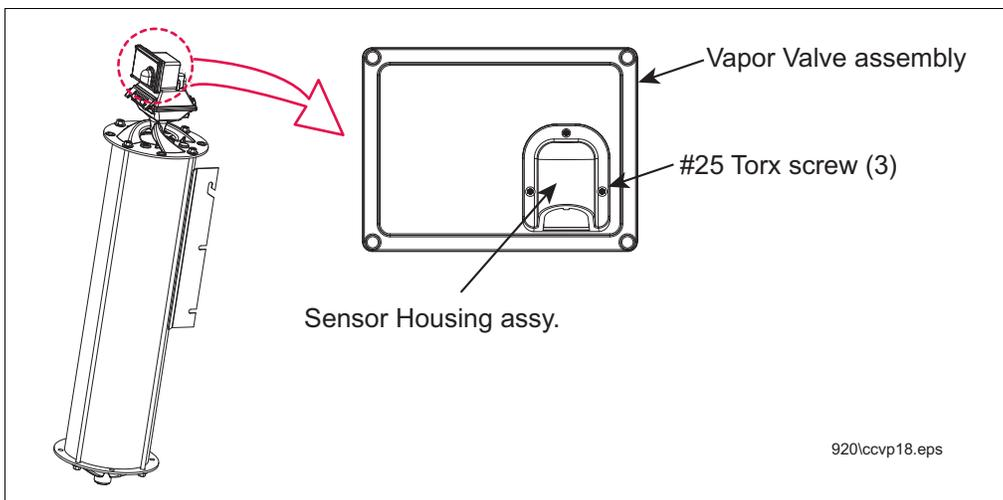

Figure 9. Remove Sensor Housing assembly
1. Remove the three #25 Torx screws holding the Sensor Housing assembly to the Vapor Valve assembly (see Figure 9).